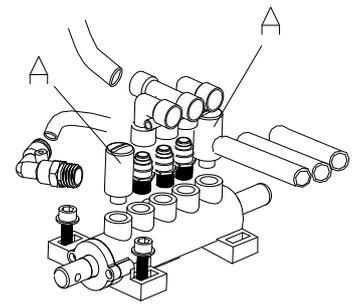

Fig 21
2. Loosen the valve mufflers (A) which belong to Jaws open and close Pedal and Bead Breaker Pedal;
3. Clean the mufflers with compressed air, please replace it referring to the spare parts list if it is damaged. **(Fig 21)**